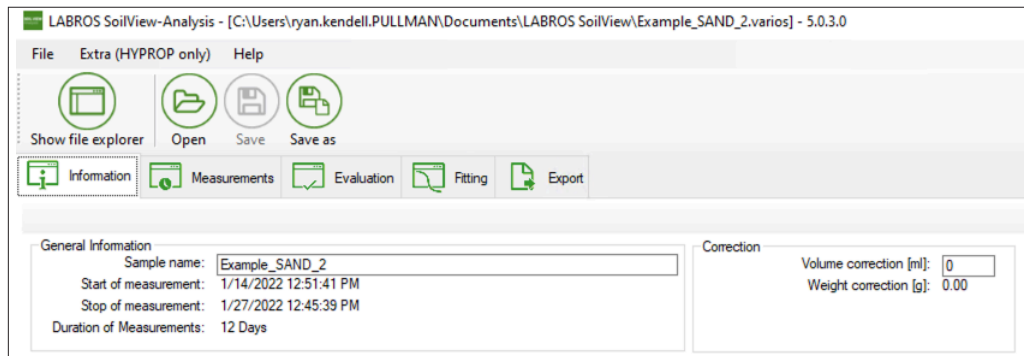

Figure 11 Volume correction in LABROS SoilView-Analysis software
5. Enter the volume in mL under the Information tab in the LABROS SoilView-Analysis software (Figure 11).